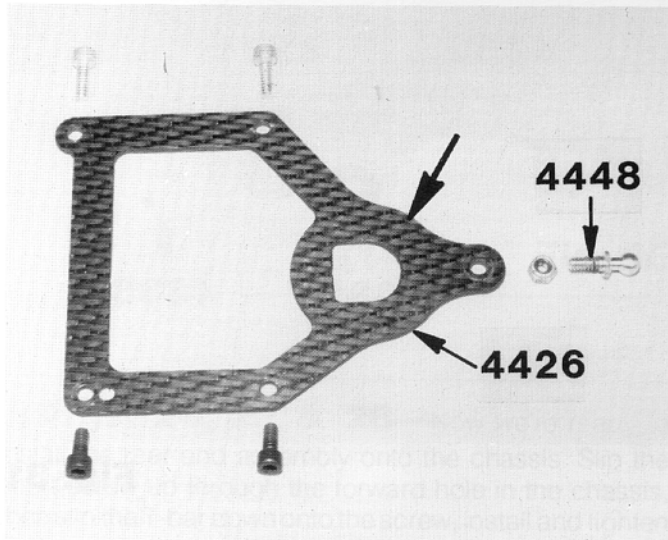

Fig. 33
□ **Fig. 33**—Take the #4426 upper bracket. The arrow is pointing where the dampner washers ride.